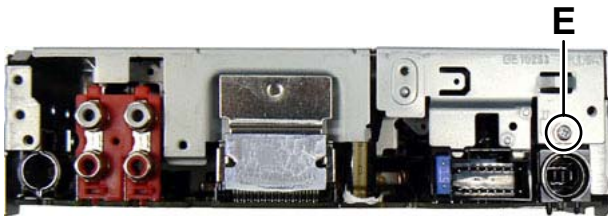

Fig.3
3.1.3 Removing the Main board (see Fig.3, 4, 5)
- (1) Remove the one screw **E** attaching the Top chassis. (See Fig.3)
3.2.2 Removing the top cover (See Fig.3 to 5)
- From the front side of the CD MECHANISM assembly, change the hook position of the two roller springs. (See Fig.3.)
- From the side of the CD MECHANISM assembly, remove the six screws **B** attaching the top cover. (See Fig.3 and 4.)